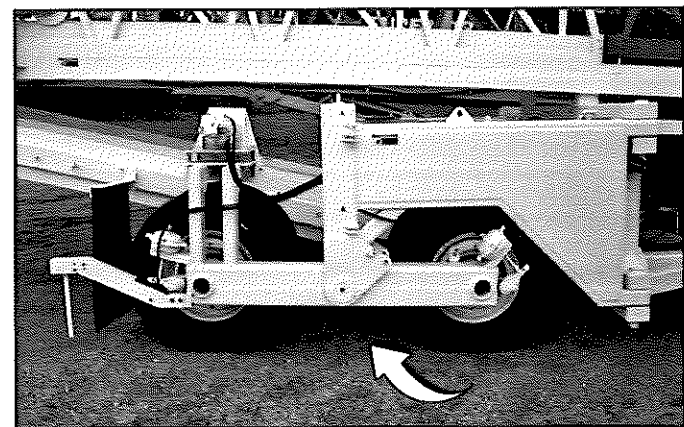

Figure 92
8. Swing the axle arm back into transport position. Repeat for the opposite side (Figure 92).